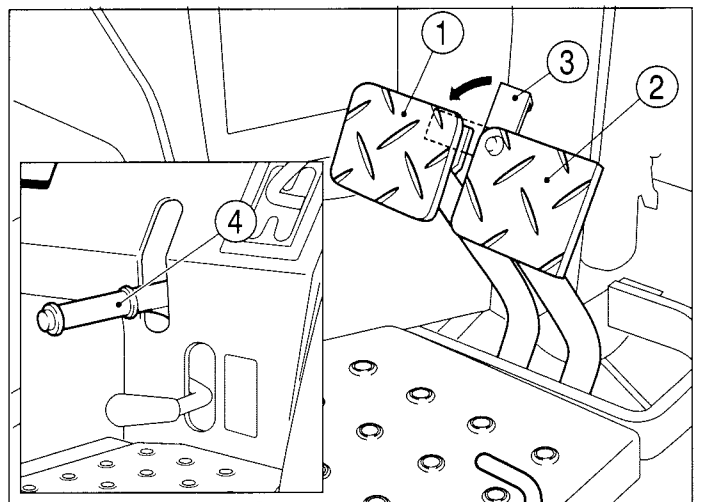

FIG.19 (Mechanical transmission)
FIG. 19 & 20: Inner brake pedal (1) and outer brake pedal (2) independently control the respective left and right wheel brakes, to assist in turning. During Tractor transport or high speed operation, brake pedals must be latched together using interlocking plate (3). Hydrostatic models do not have individual wheel brakes but single brake pedal (5).